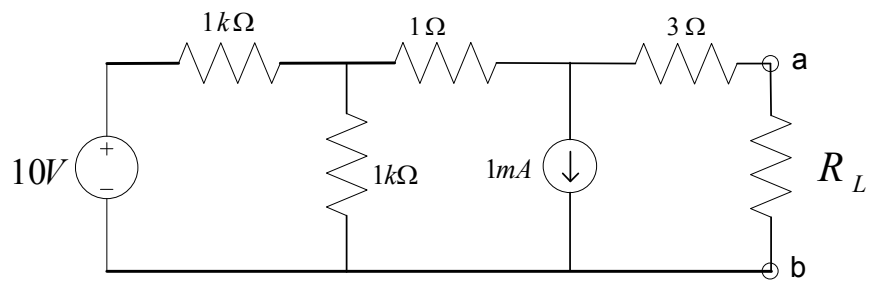

Figure Q5
5. Find, using PSPICE simulation, the **Thevenin equivalent voltage** and **Thevenin equivalent resistance** that the load  $R_L$  sees for the circuit of Figure Q5. Complicated calculation should not be involved.